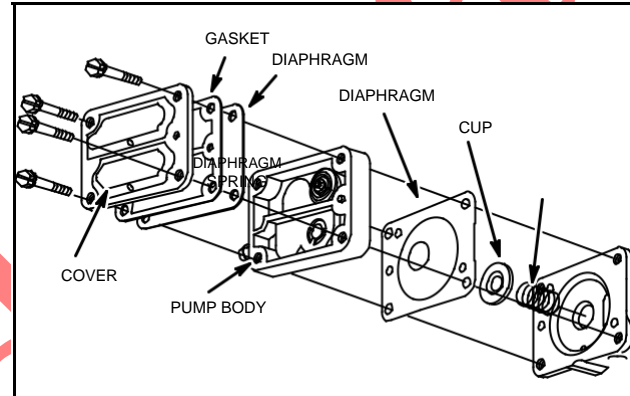

Fig. 33 – Assemble Fuel Pump
10. Assemble Remaining components as shown, Fig. 33.